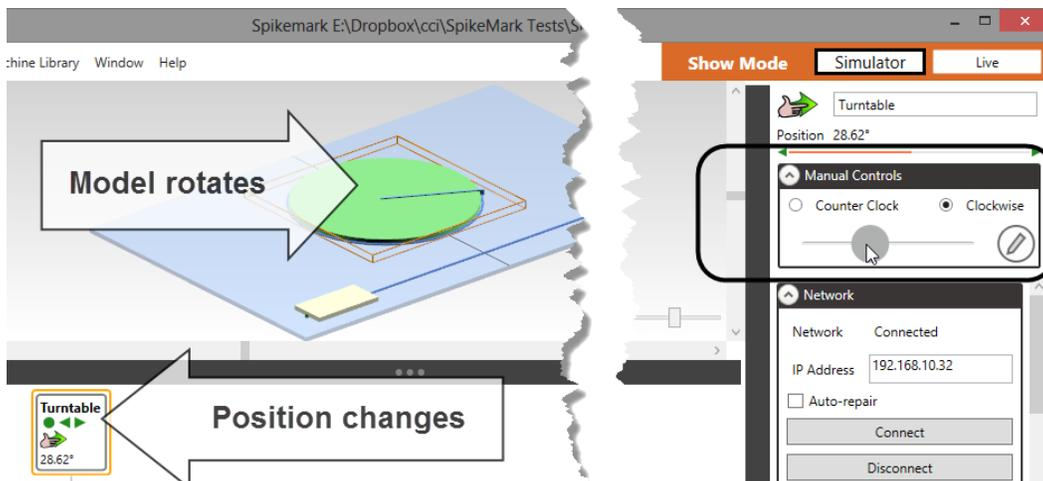

Figure 42
7. Click and drag the **Speed Slider** in the **Manual Controls** section of the **Stagehand Editor** (Figure 42). You will see the *Turntable* start moving in the **Stage Model Viewer** and the **Position** numbers start to increase in both the **Stagehand Editor** and the **Cue Grid**.